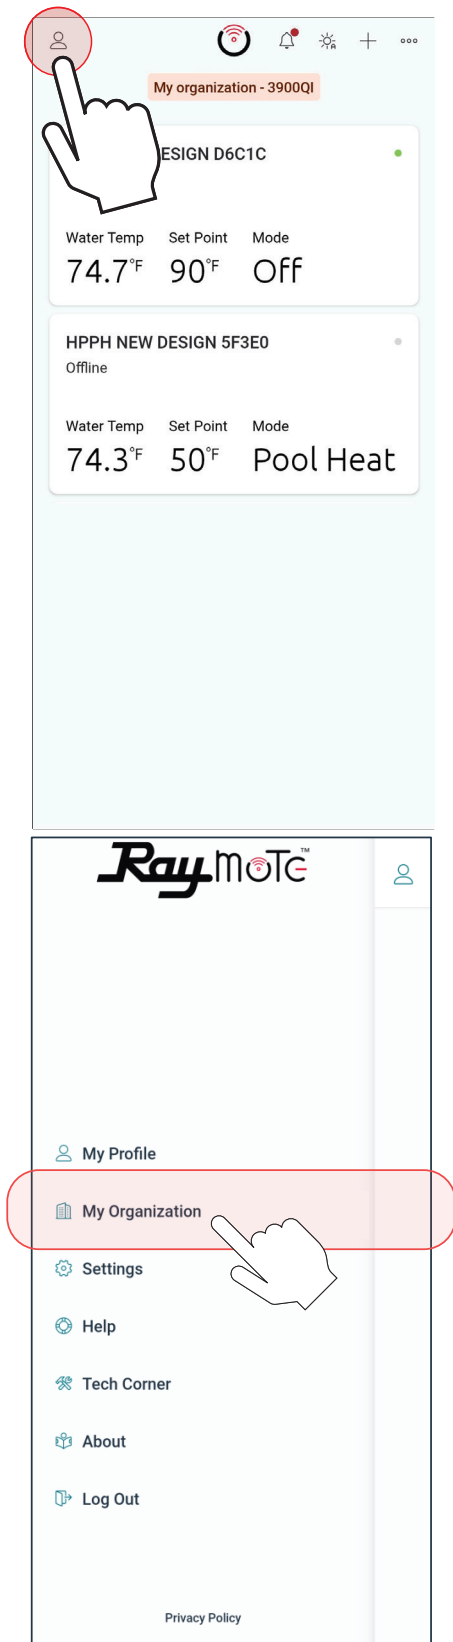

Figure 108. Select Organization Option
2. Click on the top-left "User menu". Then, select "My Organization" option. See **Figure 108**.